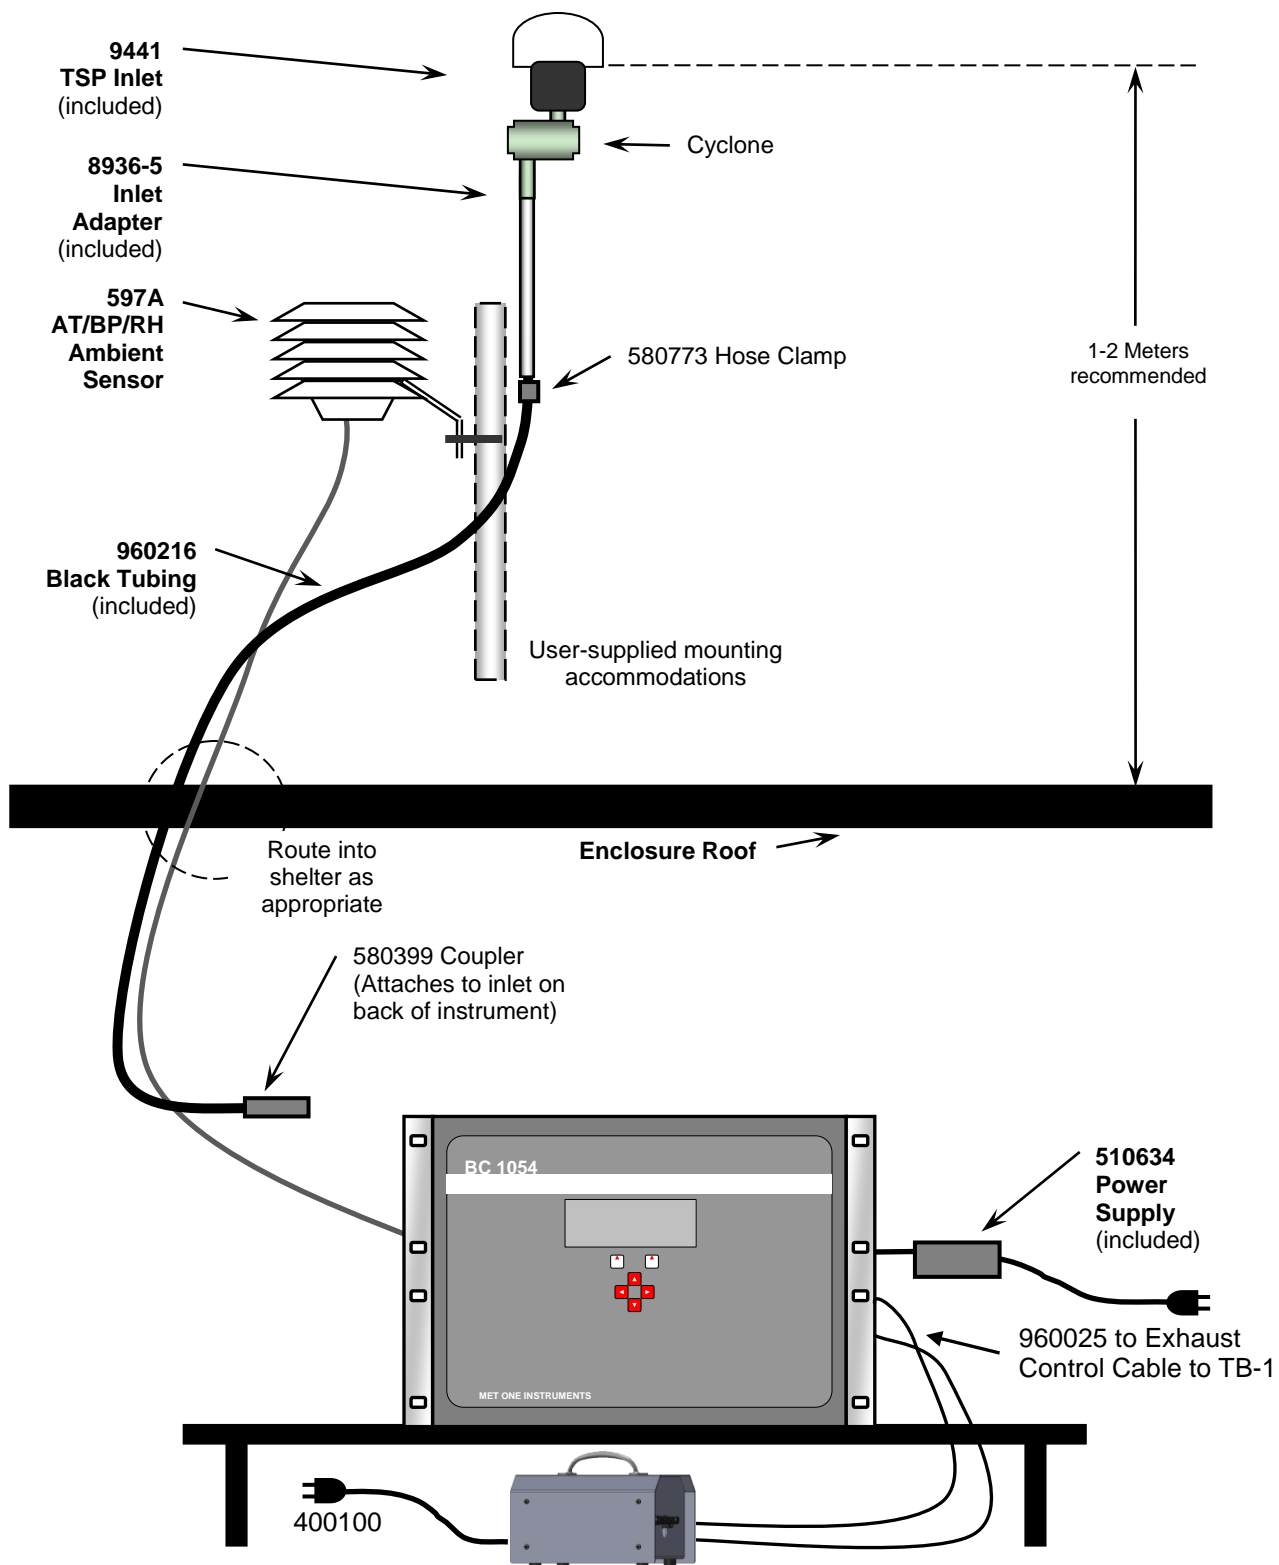

Figure 2-4 Typical BC 1054 Installation in a walk-in shelter
At the sample location, the SCC is coupled directly to the bottom of the 9441 TSP inlet. It is then mounted on the 8936-5 support tube. The flexible ESD sample tubing is then slipped over the barbs on the support tube. A worm-gear hose clamp (pn: 480773) is used to secure the tubing to the support tube. The other end of the sample tubing is routed to the BC 1054, grounded to a terminal on the back of the instrument, and is then installed on the rear of the monitor using a push-to-connect fitting (pn: 580399). See Figure 2-4. Note that this varies from the configuration when using the dilution system (Section 4.2)
5. **Connect the 597A AT/BP/RH Ambient Sensor:** The BC 1054 comes with a 597A combination ambient temperature, barometric pressure, and relative humidity sensor. The sensor must be mounted to be able to monitor the ambient conditions of the area being sampled (see Figure 2-4).
3. **Connect the 597A AT/BP/RH Ambient Sensor:** The BC 1054 comes with a 597A combination ambient temperature, barometric pressure, and relative humidity sensor. The sensor must be mounted to be able to monitor the ambient conditions of the area being sampled (see Figure 2-4).